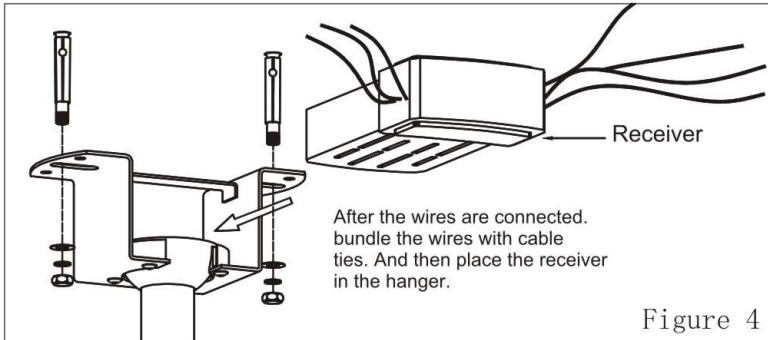

Figure 4
- After connections have been made, turn leads up ward and carefully push leads into the outlet box, with the white and green leads to one side of the box and the black leads to the otherside. (Figure 4)